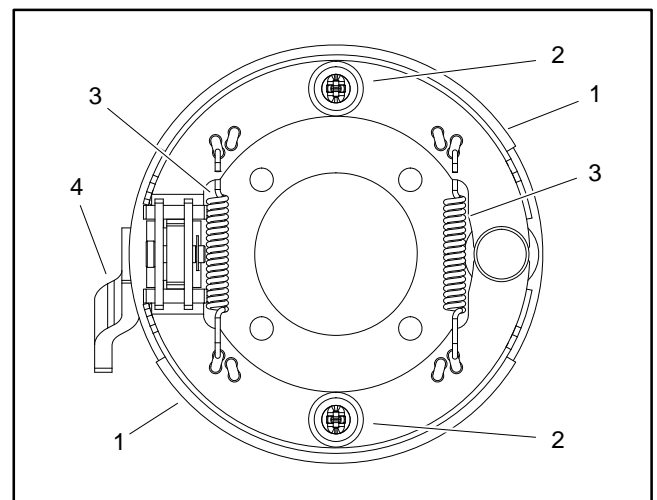

Figure 8
9. Remove shoe springs from brake shoes (Fig. 8).
10. Remove shoe hold down cups and springs. Remove brake shoes and hold down pins from backing plate (Fig. 8).
11. If necessary, remove backing plate from machine by removing four (4) cap screws (item 6).
2. If backing plate was removed from machine, position backing plate to wheel motor with brake lever inserted into slot of brake lever tab. Secure backing plate to wheel motor with four (4) cap screws (item 6).
4. Position one brake shoe to the backing plate. Install brake hold down pin and secure with hold down spring and cup (Fig. 8). Repeat for second brake shoe.
5. Install shoe springs to brake shoes (Fig. 8). Make sure that brake shoes are properly positioned to pivot and actuator points.